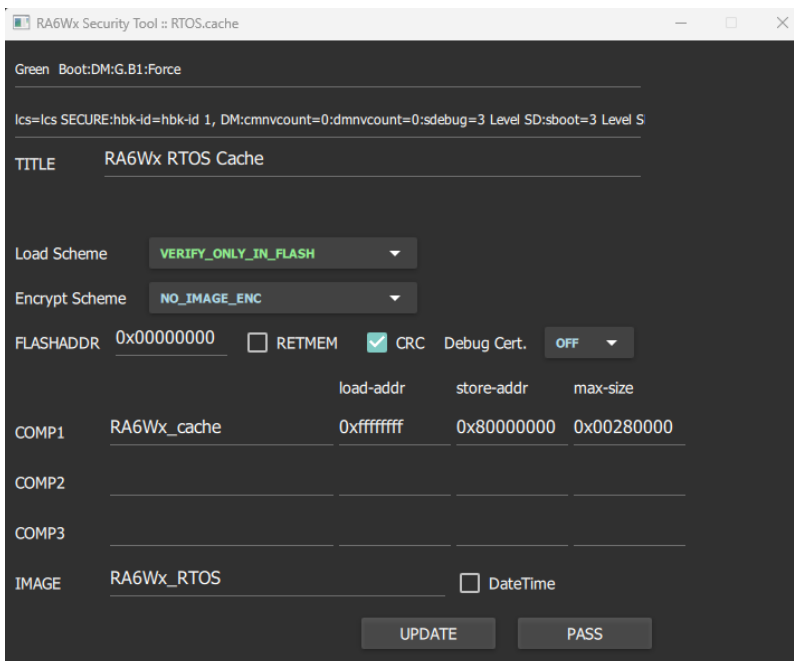

Figure 24. Secure Production – RTOS cache config
- In the **RTOS.cache** window (Figure 24), from the **Encrypt Scheme** drop-down menu, select **NO_IMAGE_ENC** when booting without security. CMPU and DMPU processes must first run in a non-secure environment.